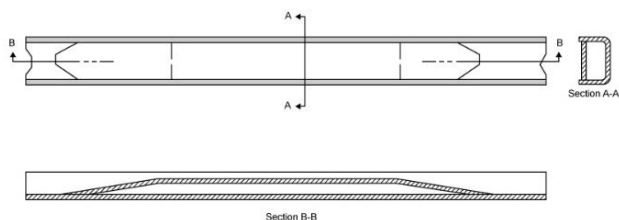

Figure 3: Sub-frame reinforcement under mounting
- Reinforce open section sub-frame rails in the vicinity of their attachments to the chassis (see Figure 3).